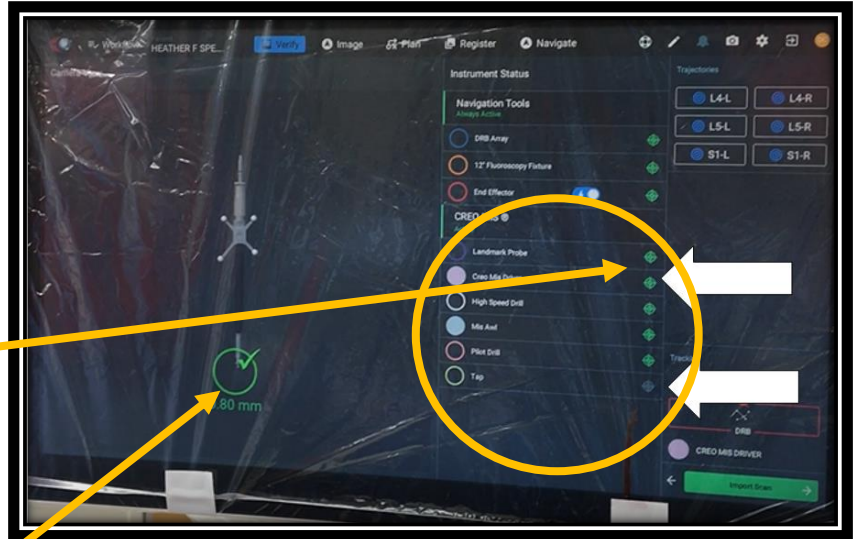

Figure 10
- Verified Instruments are signified by **GREEN** crosshairs to the right of the Instrument description. Arrows have been added to the screen shot (Figure 10) alongside the Precision Spine E-GPS Instruments to be verified. Figure 10 shows that the CREO MIS Driver has been verified and is ready for use while the Tap has yet to be verified as signified by the **GREY** crosshairs. Successful verification is only signified with a **GREEN** check mark circle.